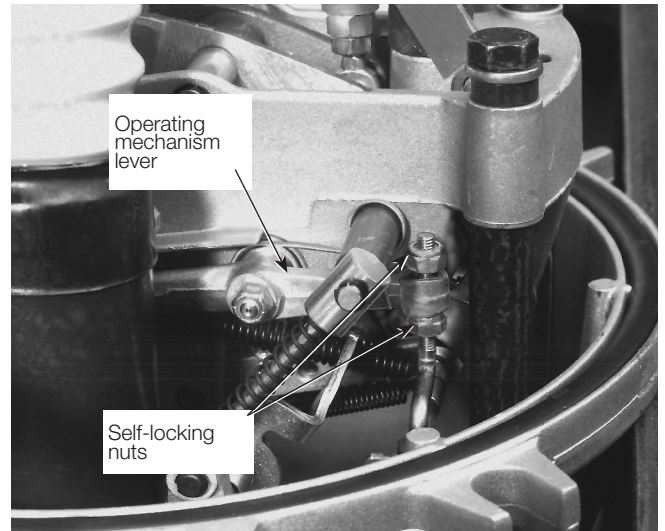

Figure 25. Trip linkage adjustment
- A. If recloser is performing too many operations, turn self-locking nuts off the trip linkage (counterclockwise) a little, see Figure 25. Repeat test.
- B. If recloser is performing too few operations, turn self-locking nuts onto the trip linkage (clockwise) a little (onto the pump piston) see Figure 25. Repeat test.